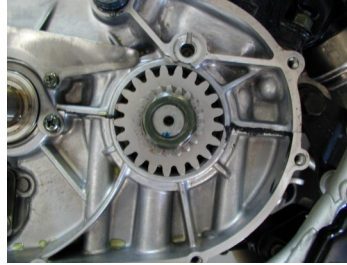

Figure 1
- Install new Hinson crank gear. (figure1)